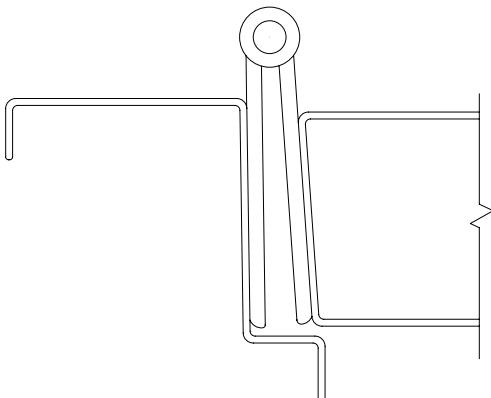

FIGURE 2b
Continuous hinges, Figure 2a, are available in two styles, Barrel and Gear Hinge. For illustration purposes only, Figures 2b through 2e are shown with Barrel type hinge.
1. The Edge Mounted Continuous Hinge, Figure 2b, has two equal leaves; one leaf mounted to the frame rabbet and the other leaf mounted to the door edge.